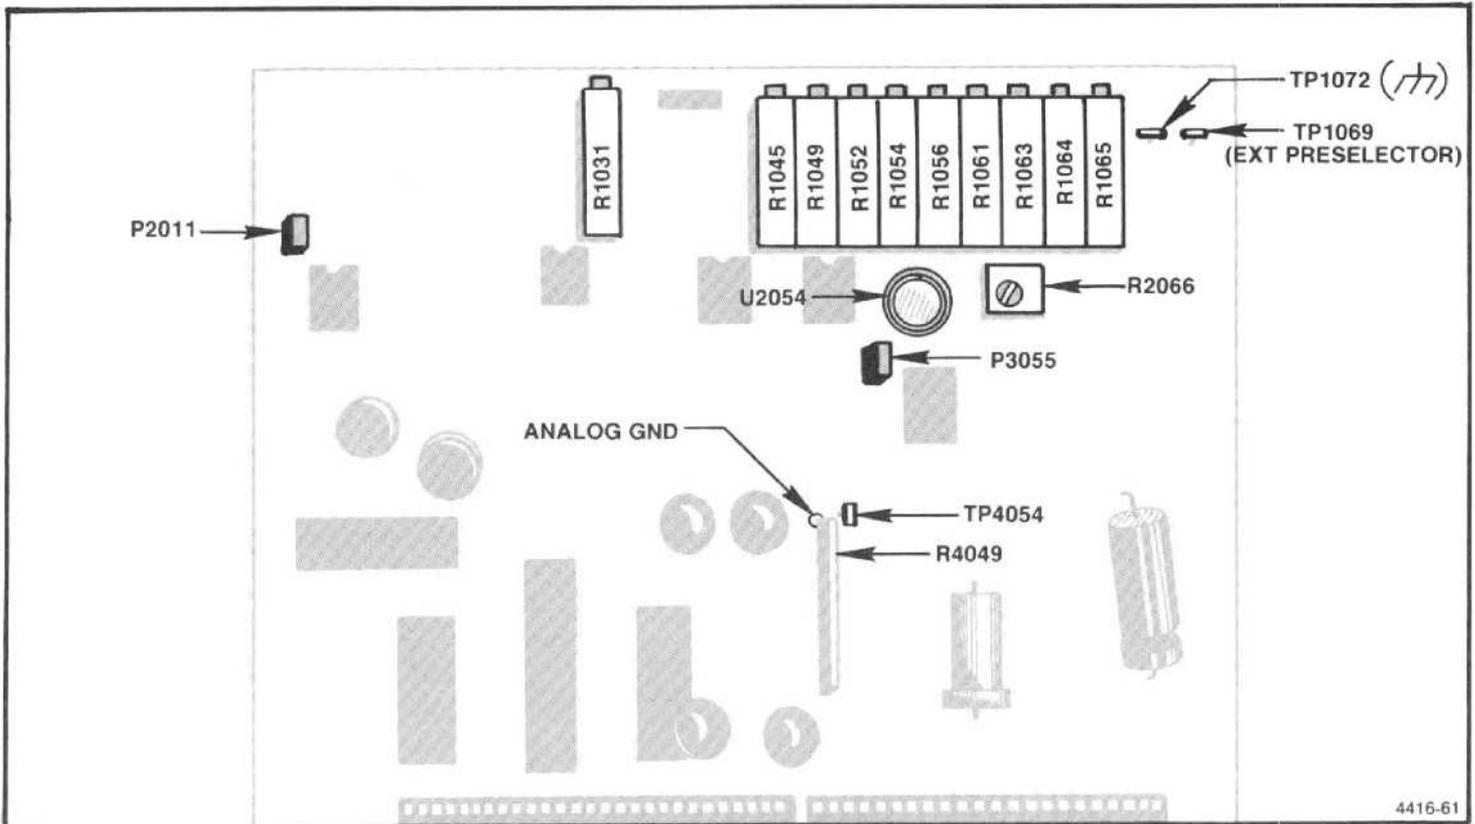

Figure 5-26. Preselector Driver adjustment and test points.
b. Set the offset for driver U2054 as follows: (Offset should only require adjusting if U2054 is changed.) Switch POWER off, pull the Preselector Driver board and install on extender board (Figure 5-26) then switch POWER on.
(1) Set the FREQUENCY RANGE to band 1 (0-1.8 GHz);
(2) Pull P3055 and connect a DVM between TP4054 and analog ground (Figure 5-26). Set the voltmeter range to 30 Ω V or less;
(3) Starting from a fully counterclockwise position, adjust Driver Offset R2066 (Figure 5-26) for 0 V at TP4054;
- (4) Disconnect the DVM, replace P3055, then switch POWER off and reinstall the Preselector Driver board. Switch POWER on.
- d. Apply the CAL OUT signal to the RF INPUT. Set the REF LEVEL to -30 dBm, FREQ SPAN/DIV to 20 MHz and activate AUTO RESOLN. Select the 1.7–5.5 GHz FREQUENCY RANGE and adjust the CENTER FREQUENCY to center the 2.1 GHz marker. Center the Input Offset adjustment R1031 (Figure 5-26) then center the 2.1 GHz marker with the CENTER FREQUENCY control.
- f. Peak the 2.1 GHz signal with the -829 MHz IF Offset R1049 (Figure 5-26)
- m. Increase FREQUENCY to the 12 GHz marker, then peak the 12 GHz point with Shaper #1 R1054 adjustment (Figure 5-26).
- t. Adjust -829 MHz IF Offset R1049 (Figure 5-26) to peak the 3.5 GHz response.
- w. Tune the 19 GHz marker to center screen then peak the 19 GHz signal with Shaper #3 R1061 adjustment (Figure 5-26).